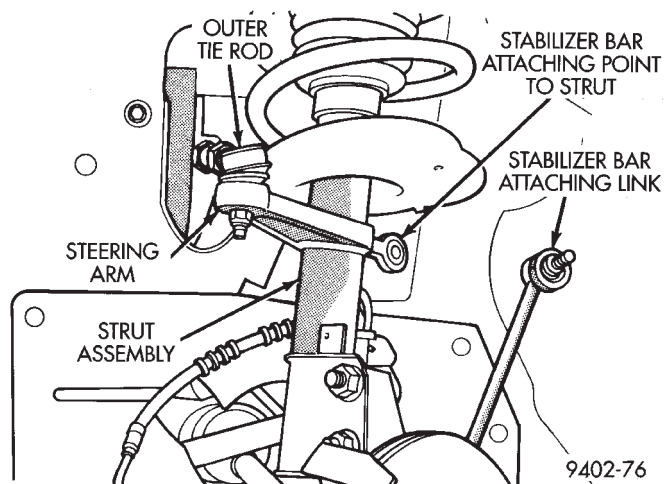
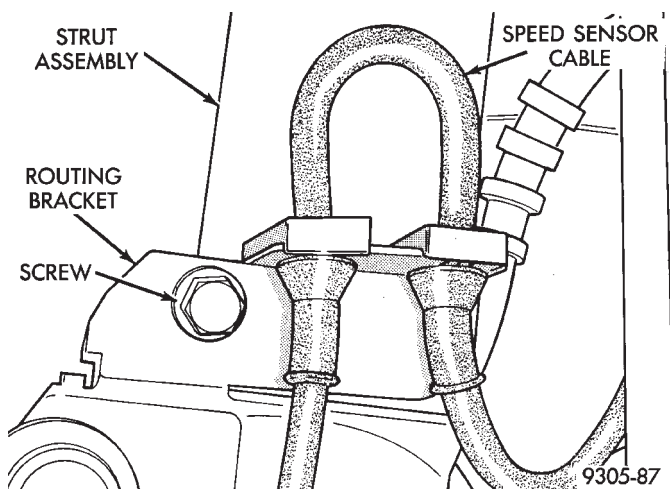

Fig. 8 Stabilizer Bar Link Removed From Strut
Fig. 10 Speed Sensor Cable Routing Bracket
(1) Raise vehicle on jackstands or centered on a frame contact type hoist. See Hoisting in the Lubrication and Maintenance section of this manual, for the required lifting procedure to be used for this vehicle.
(2) Remove front wheel and tire assembly from the vehicle.
(3) Remove the stabilizer bar attaching link from the strut assembly (Fig. 8).
(5) If vehicle is equipped with antilock brakes, remove the speed sensor cable routing bracket from the strut assembly (Fig. 10).
(5) If the vehicle is equipped with antilock brakes. Install the front speed sensor cable routing bracket onto the front strut assembly (Fig. 10).
(6) Install outer tie rod on strut assembly. Install tie rod attaching nut. Tighten the tie rod attaching nut to a torque of 37 N·m (27 ft. lbs.).
(7) Install stabilizer bar link on strut (Fig. 8). Tighten the stabilizer link attaching nut to a torque of 95 N·m (70 ft. lbs.).
(8) Install the wheel and tire assembly.
(9) Tighten the wheel mounting nuts in proper sequence until all nuts are torqued to half specification. Then repeat the tightening sequence to the full specified torque of 129 N·m (95 ft. lbs.).
(10) Lower vehicle.